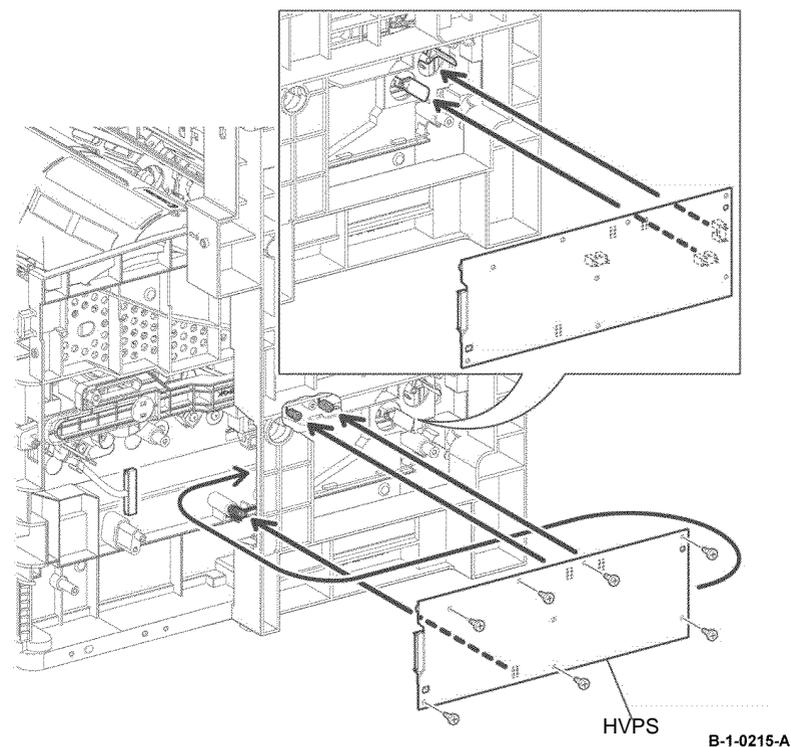

Figure 3 HVPS installation
2. When installing the HVPS, ensure that the ends of the three conductive springs provided on the frame are in contact with the terminals on the board, and that the two sensors on the HVPS are correctly aligned with the registration shutter sensor, Figure 3.